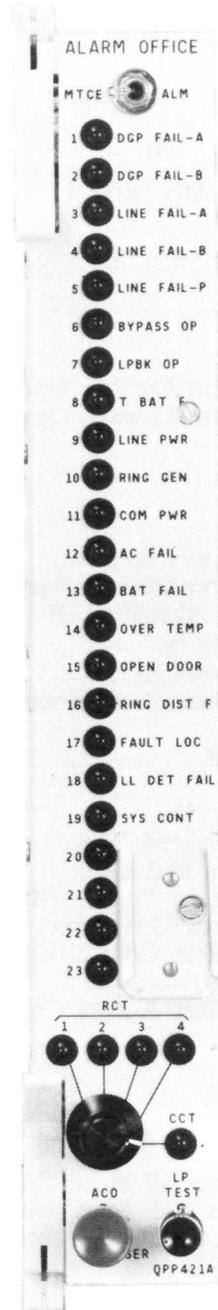

Fig. 2 — QPP421 ALARM OFFICE Circuit Pack
- 1      When an office alarm is caused by the DMS-1 system, press the ACO button (Fig. 2).